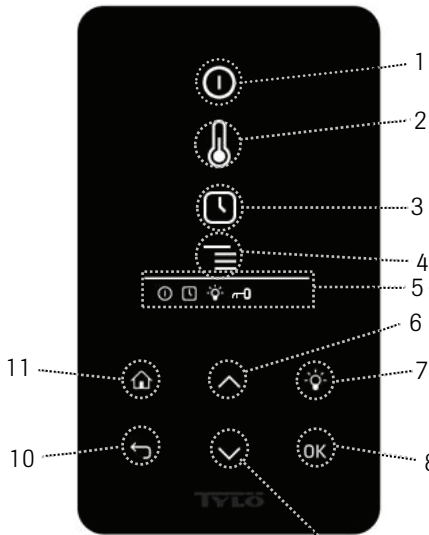

Figure 8. Basic menu h1
11. Home – Returns you to the basic menu (figure 8 or 9)